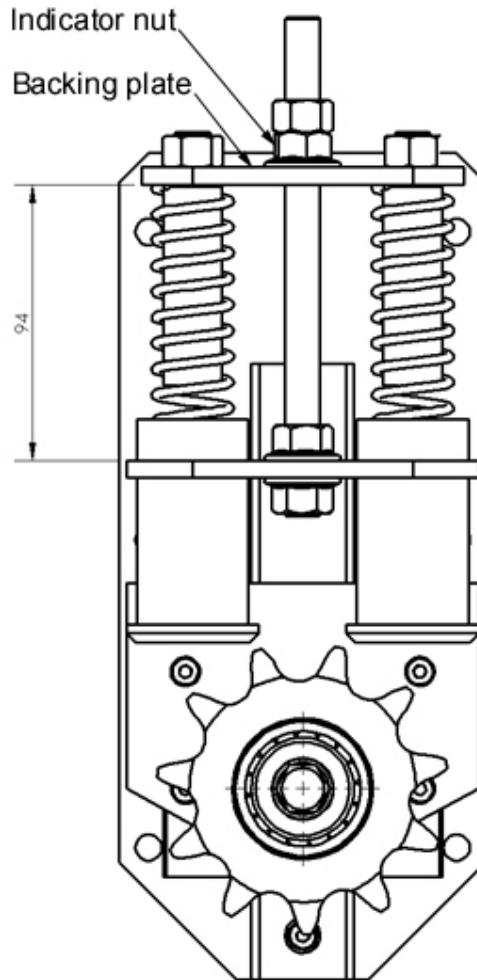

Figure 4.9
- g) Check the Shutter Drive Chain Tensioner Assembly dimension shown in Figure 4.9. If this dimension is not 94mm or the Indicator nut is not hard up against the backing plate, then contact EOS site supervisor.